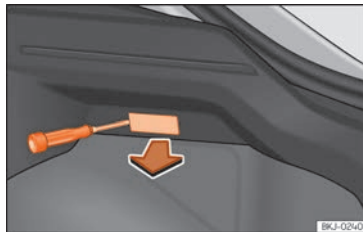

Fig. 168 Boot light.
- Extract the bulb by pressing on its inside edge using the flat side of a screwdriver >>> Fig. 168.